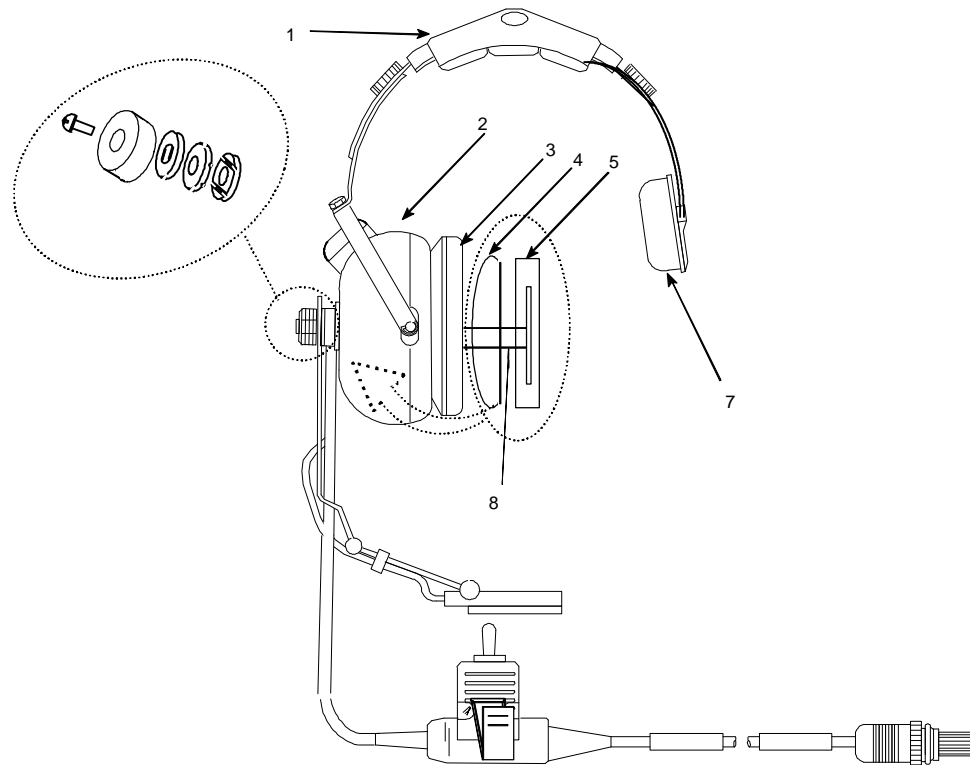

Figure 3-27. Command and Control Headset
3.10. COMMAND AND CONTROL HEADSET COMPONENTS REMOVAL AND REPLACEMENT PROCEDURES (FIG. 3-27)
THE COMMAND AND CONTROL HEADSET CONTAINS AN EARPHONE WITH WIRE CONNECTIONS (8 OF FIGURE 3-27) THAT MUST BE HANDLED VERY CAREFULLY WHEN THE FOAM EARPHONE HOLDER IS REMOVED FROM THE EARCUP.
3.10.1. Microphone Removal and Replacement Procedures (Fig. 3-27)
3.10.2. Boom Assembly/Mounting Hardware Removal and Replacement Procedures (Fig. 3-27)
3.10.3. Earcushion, Earphone Holder, and Back Pad Removal and Replacement (Fig. 3-27)
3.10.4 Spring Cover Pad Removal Procedure and Replacement Procedure (Fig. 3-27)
3.10.5 Side Pad Removal and Replacement Procedures (Fig. 3-27)